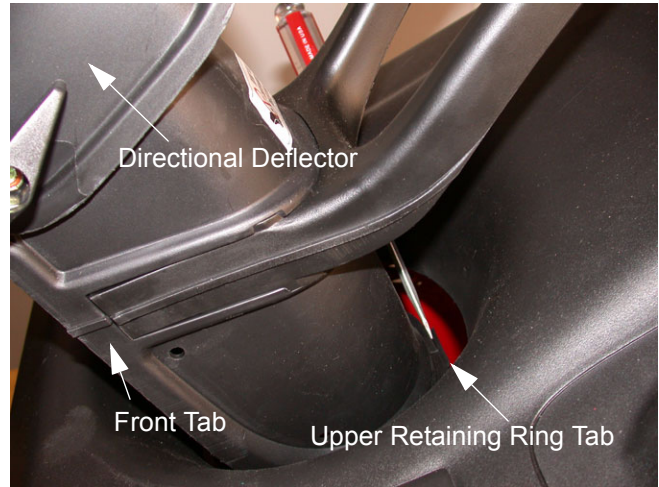

Figure 21
handle out of the chute assembly. See Figure 21.
- 11.4. Remove the directional deflector from the chute assembly and you will be able to lift the shroud over the lower chute. See Figure 21.